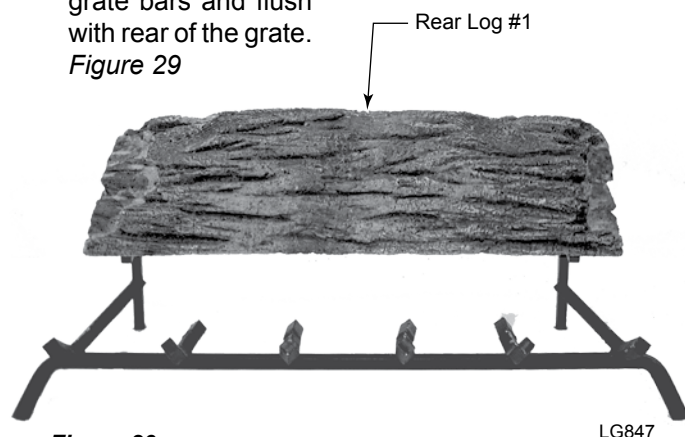

Figure 29 - Center Rear Log on Grate
- 2. Center rear log #1 on grate bars and flush with rear of the grate. *Figure 29*